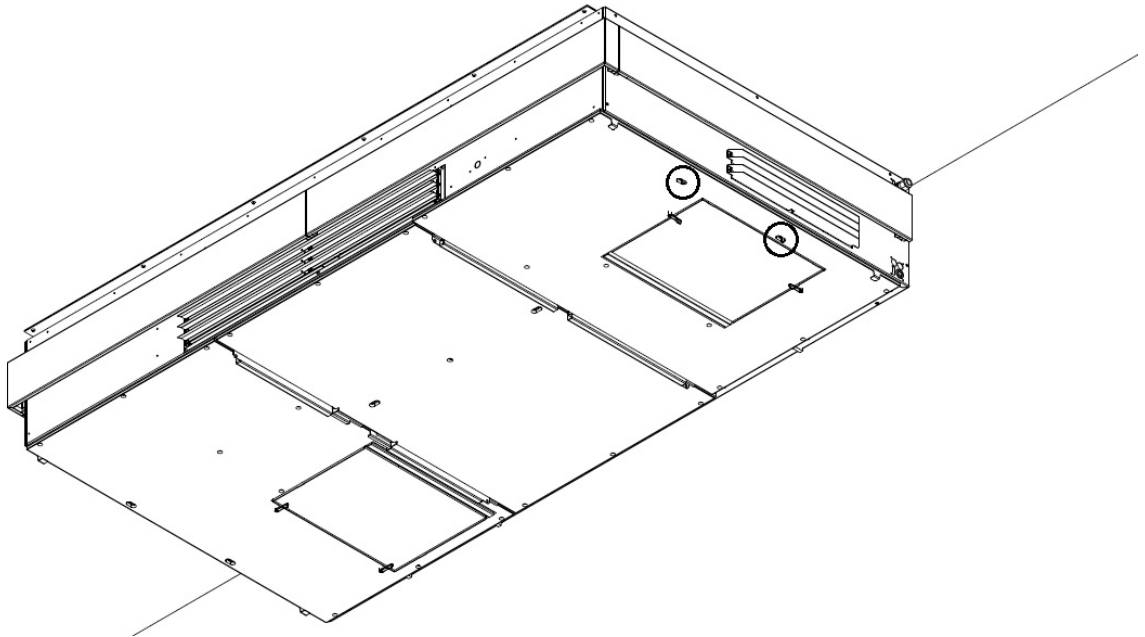
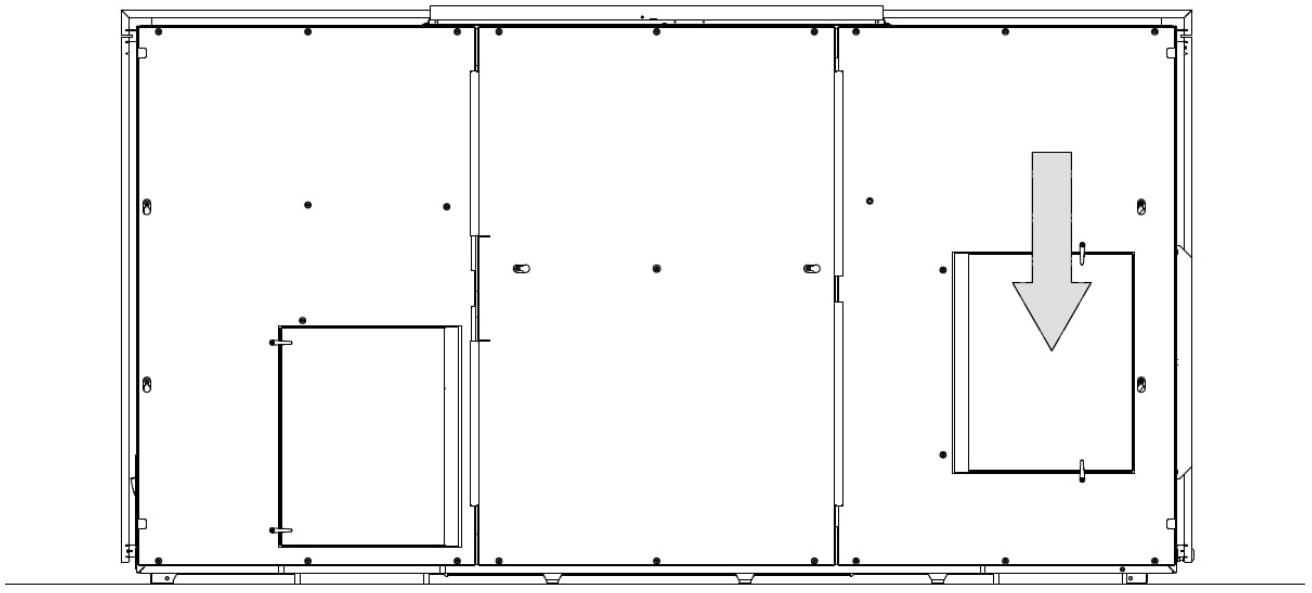

Figure 47: Keyhole on the right-hand steel plate
Figure 48: Push steel plate toward the wall
12. As before, lift the plate and slide it toward the wall to lock it, see Figure 47 and Figure 48.